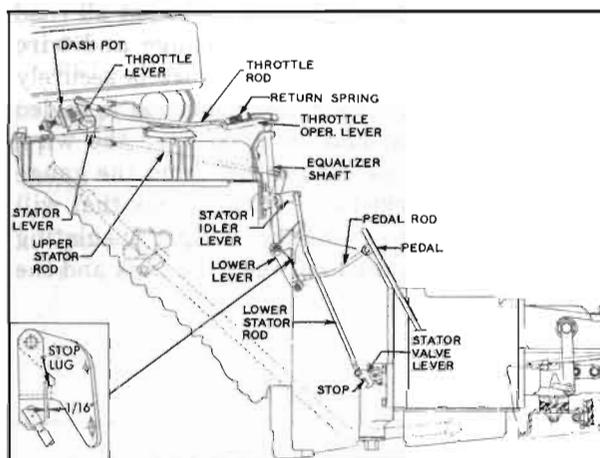

Figure 3-11—Throttle and Stator Control Linkage
6. Disconnect throttle rod from throttle operating lever on equalizer shaft. See figure 3-11.
11. With throttle closed to hot idle position, check clearance between equalizer shaft lower lever and stop lug on the shaft-to-cowl mounting bracket. A minimum clearance of $\frac{1}{16}$ " must exist at this point. See figure 3-11.
1. With throttle held in *wide open position*, adjust upper stator rod so that ball joint at forward end will just slip freely in stator lever on carburetor with stator rod pulled forward. See figure 3-11.